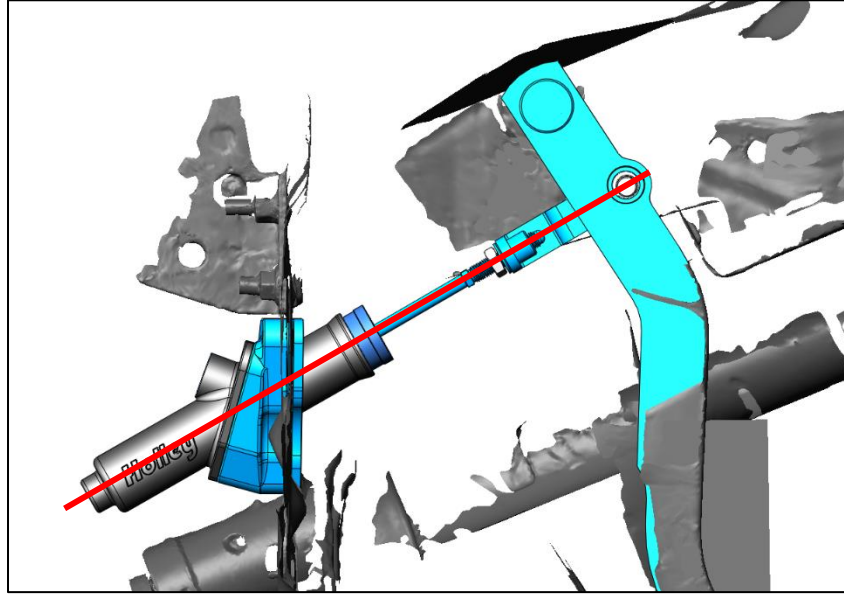

Figure 8: Clutch Linkage Positioning
28. Looking at the clutch master cylinder and linkage position, adjust the master cylinder mounting location until the linkage and the clutch master cylinder are in-line with one another as shown in Figure 8. Torque the 1/4"-20 bolts to 15 ft./lbs.